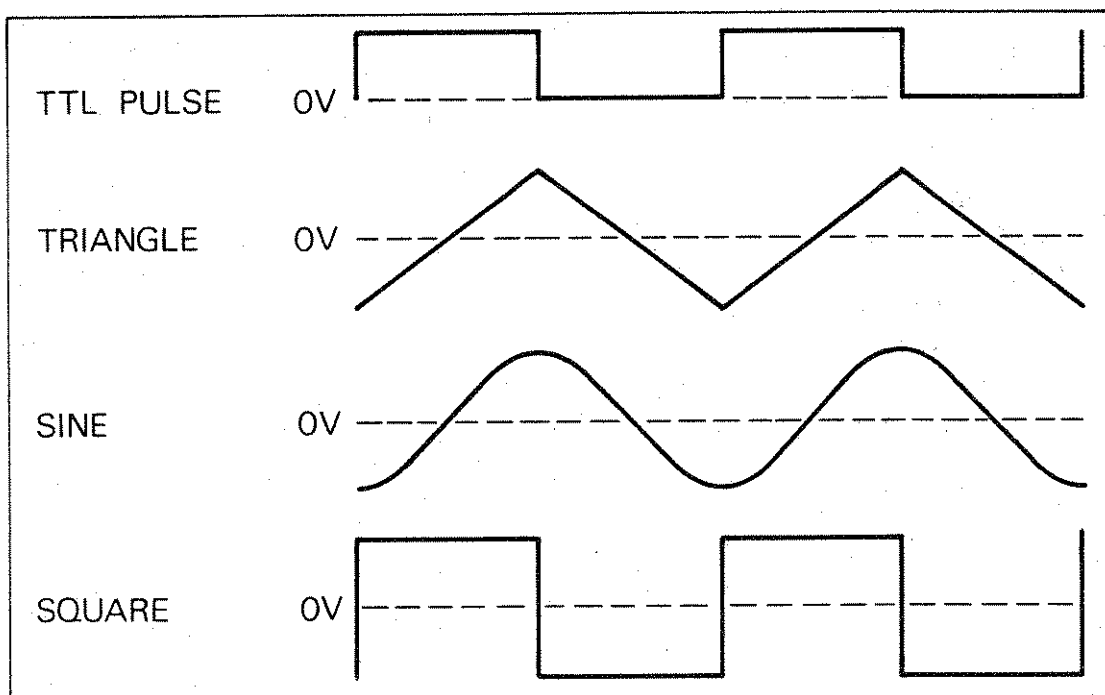

Fig. 3. Output waveform and phase relationships.
1. With the unit plugged into a power source, depress the POWER button (1).
2. Select the frequency range desired by depressing the appropriate RANGE switch. The frequency range obtained as the FREQUENCY dial (6) is varied will be from one-tenth the indicated RANGE value to 10 times this value. For example, select the 10 K range. When the FREQUENCY dial is at .1, the output frequency is 1 KHz; when at 1, it is 10 KHz and when at 10 the frequency is 100 KHz. The frequency obtained applies to the signal at the TTL jack as well as the 600 Ω OUTPUT jack.
3. Select the waveform desired by depressing the appropriate FUNCTION button. The phase relationships of the waveforms available are shown in Fig. 3.
4. The amplitude of the selected output signal at the 600 Ω OUTPUT jack is adjusted by AMPLITUDE control (4). The TTL output is not affected by the AMPLITUDE control.